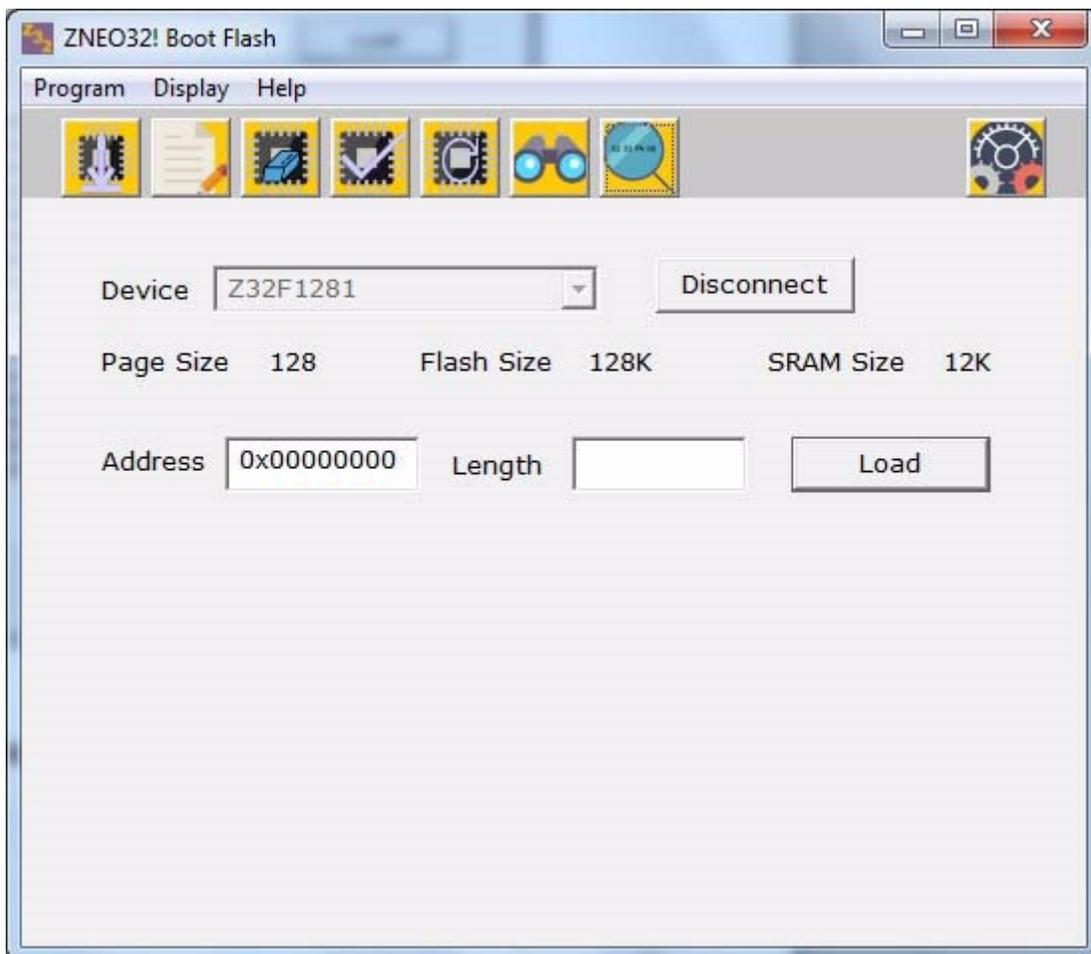

Figure 28. Display Address
1. On the screen shown in Figure 28, enter the address and the number of bytes to retrieve, then click **Load**.